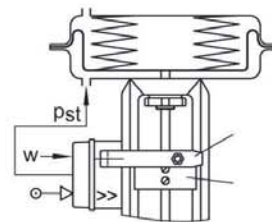
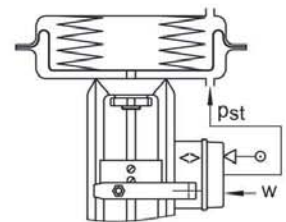
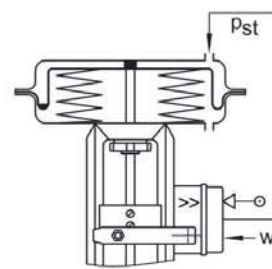
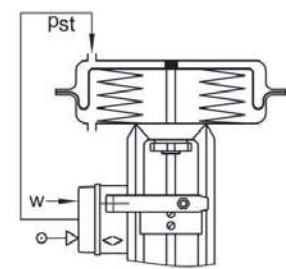

Fig. 5: Operating direction >>
Fig. 6: Operating direction <>
Fig. 7: Operating direction >>
Fig. 8: Operating direction <>
When the reference variable increases, the signal pressure can be selected to be increasing/increasing (direct action >>) or increasing/decreasing (reverse action <>). The operating direction depends on the position of the nozzle assembly that can be turned by 180°. The visible marking (>> or <>) indicates which operating direction is effective. On changing the operating direction or the fail-safe position, note that the positioner must also be mounted in a different position (Fig. 5 to Fig. 8).
Fig. 5 to Fig. 8 schematically illustrate the arrangement of the actuator, the mounting position of the positioner, the reference variable and the operating direction.
### Actuator stem extends (Fig. 5 and Fig. 6)
### Actuator stem retracts (Fig. 7 and Fig. 8)
Figs. 5 to 8 illustrate the different operating directions and the mounting positions of the positioner. Right and left attachment apply when looking onto the lever (1) and plate (2).